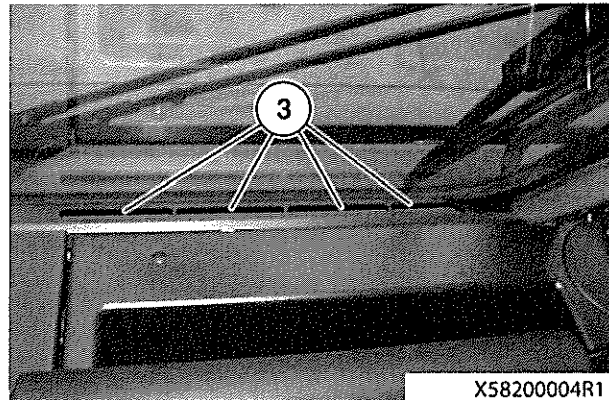

Fig 5 Front air nozzles
15 Refer to Fig 5. Push the windscreen ventilation lever to the right to allow fresh air or heated air to the front air nozzles (3).